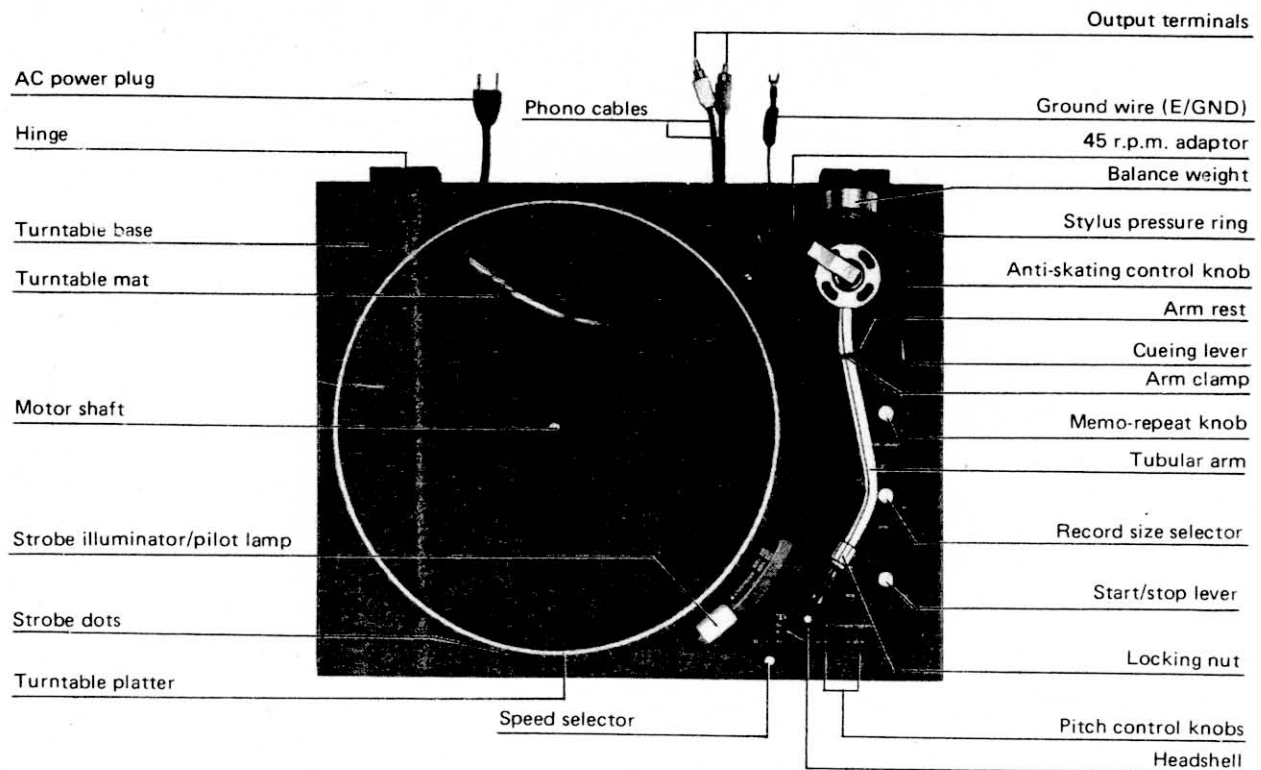

Fig. 1
- 2) Make sure that speed selector is in the "." position, the balance adjustment is easily made as the turntable platter remains stationary. (See Fig. 1).
- 4) Make sure that the "memo-repeat" knob is located at the "0" position. (See Fig. 1).